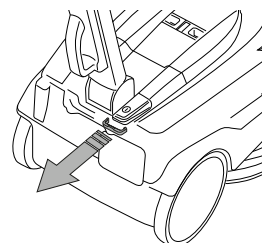

Fig.2C
- Remove the mechanical lock from the switch (Fig.2C).